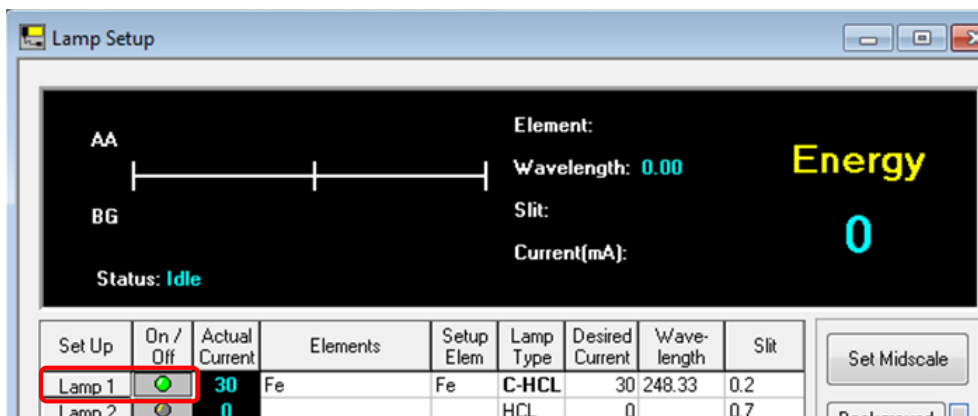

Fig. 13
3.1.15 Click on  to open the lamp setup window. Click on  behind the target lamp to switch on the lamp (fig.13). Lamp should be warmed up for 15 min before ignite the flame. Then close lamp window.